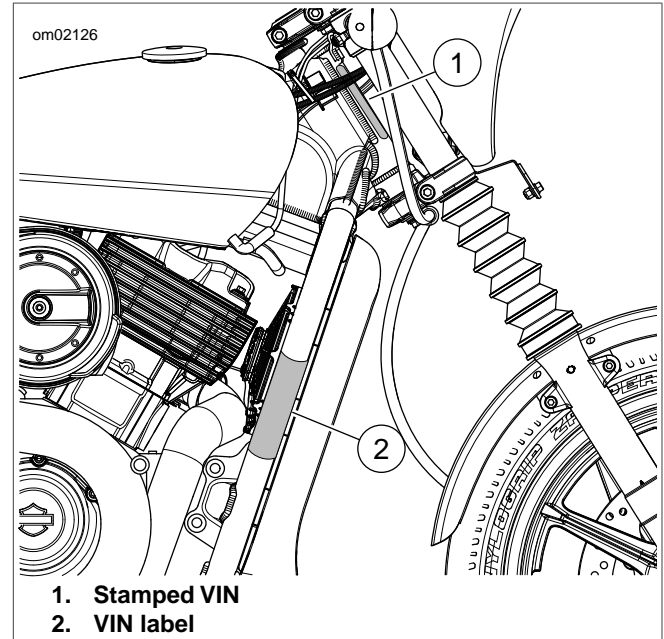

Figure 2. VIN Locations
See Figure 2. The full 17-digit VIN is stamped (1) on the right side of the frame near the steering head. In some destinations, a printed VIN label (2) is also attached on the front downtube.